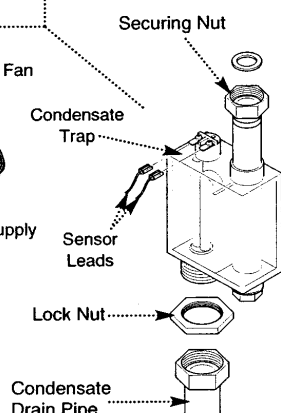

Fig. 42
- Undo the condensate trap securing nut, lock nut and the condensate drain pipe. Remove the condensate trap and disconnect the sensor leads (Fig. 42).